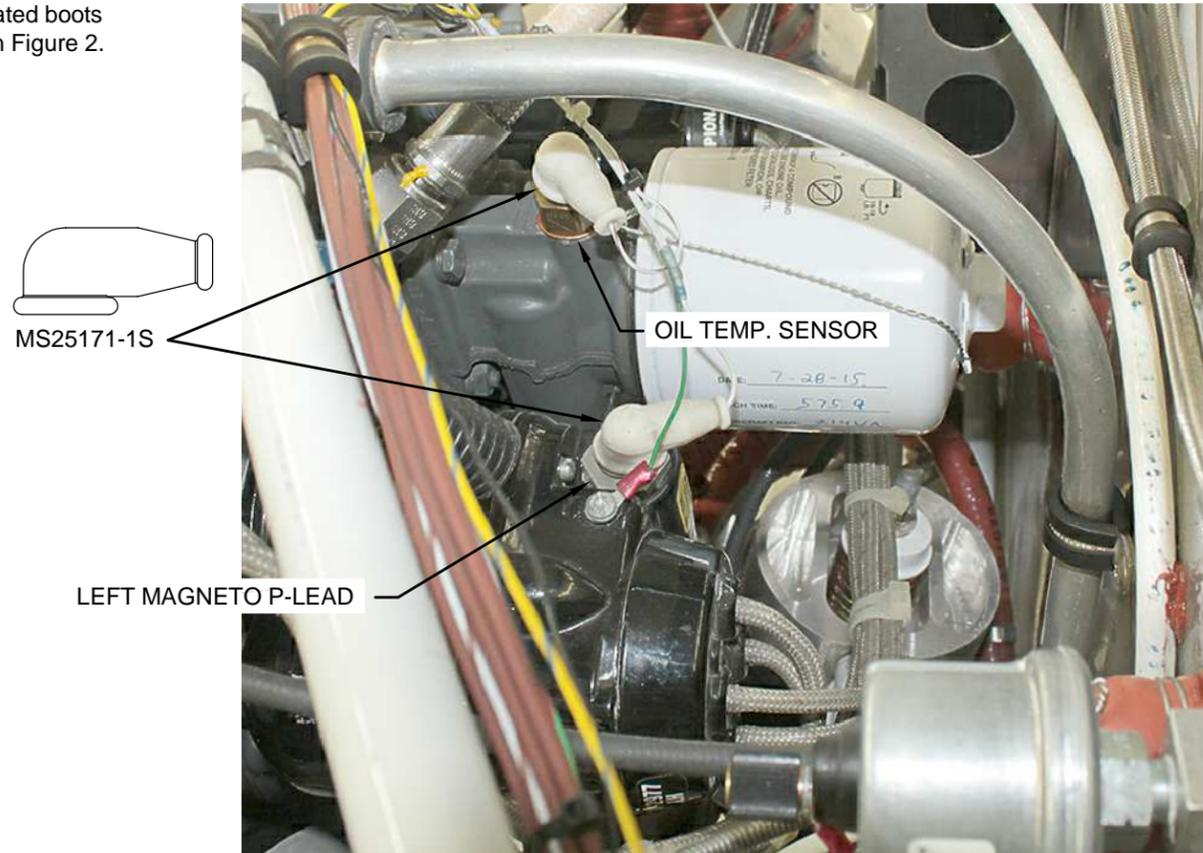

FIGURE 2: INSTALL INSULATED BOOTS
Step 3: Add insulated boots where indicated in Figure 2.